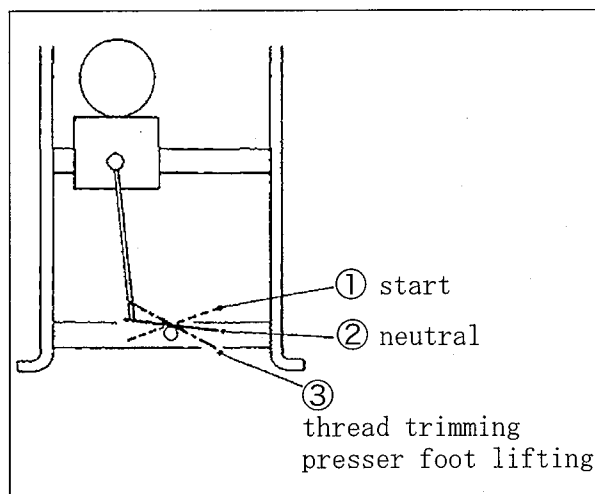

Fig. 10
- (1) Place the fabric under the presser foot and toe down the pedal. (Fig. 10 ①)
- (2) Release the pedal. (Fig. 10 ②)
- (3) Heel back the pedal. (Fig. 10 ③)
- (4) Release the pedal. (Fig. 10 ②)